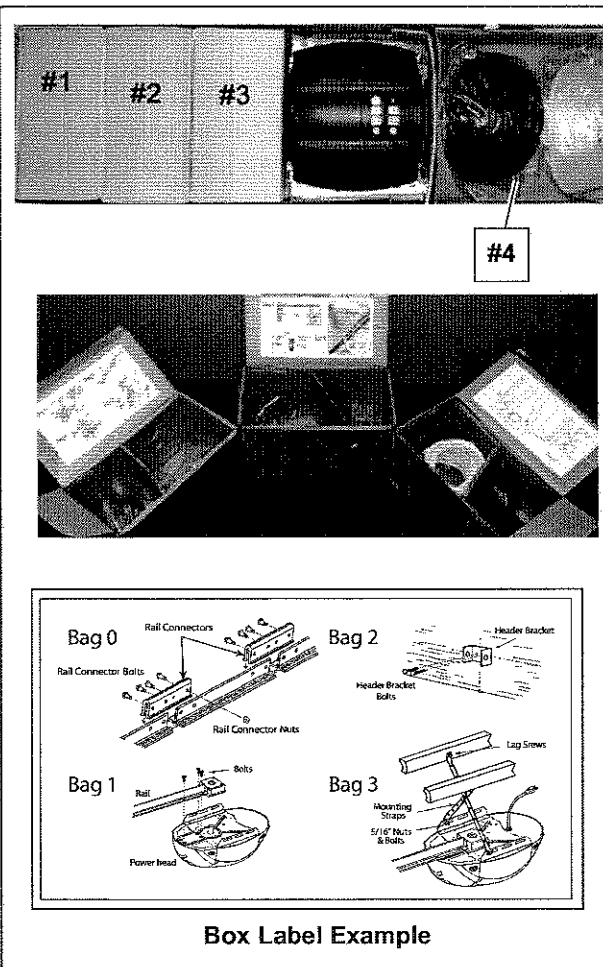

FIG. 1-1 Internal boxes.
1. There are 4 boxes inside the carton. Each box is numbered 1 - 4. Note that some operators will contain the same parts and be packaged with fewer boxes. Carefully remove the three internal boxes (Labeled #1, 2, and 3) and place them on the floor for easy access. (Fig. 1-1). These boxes contain assembly parts and the contents are organized by assembly tasks. For quick reference inside the lid of each box there is a label illustrating the components inside.